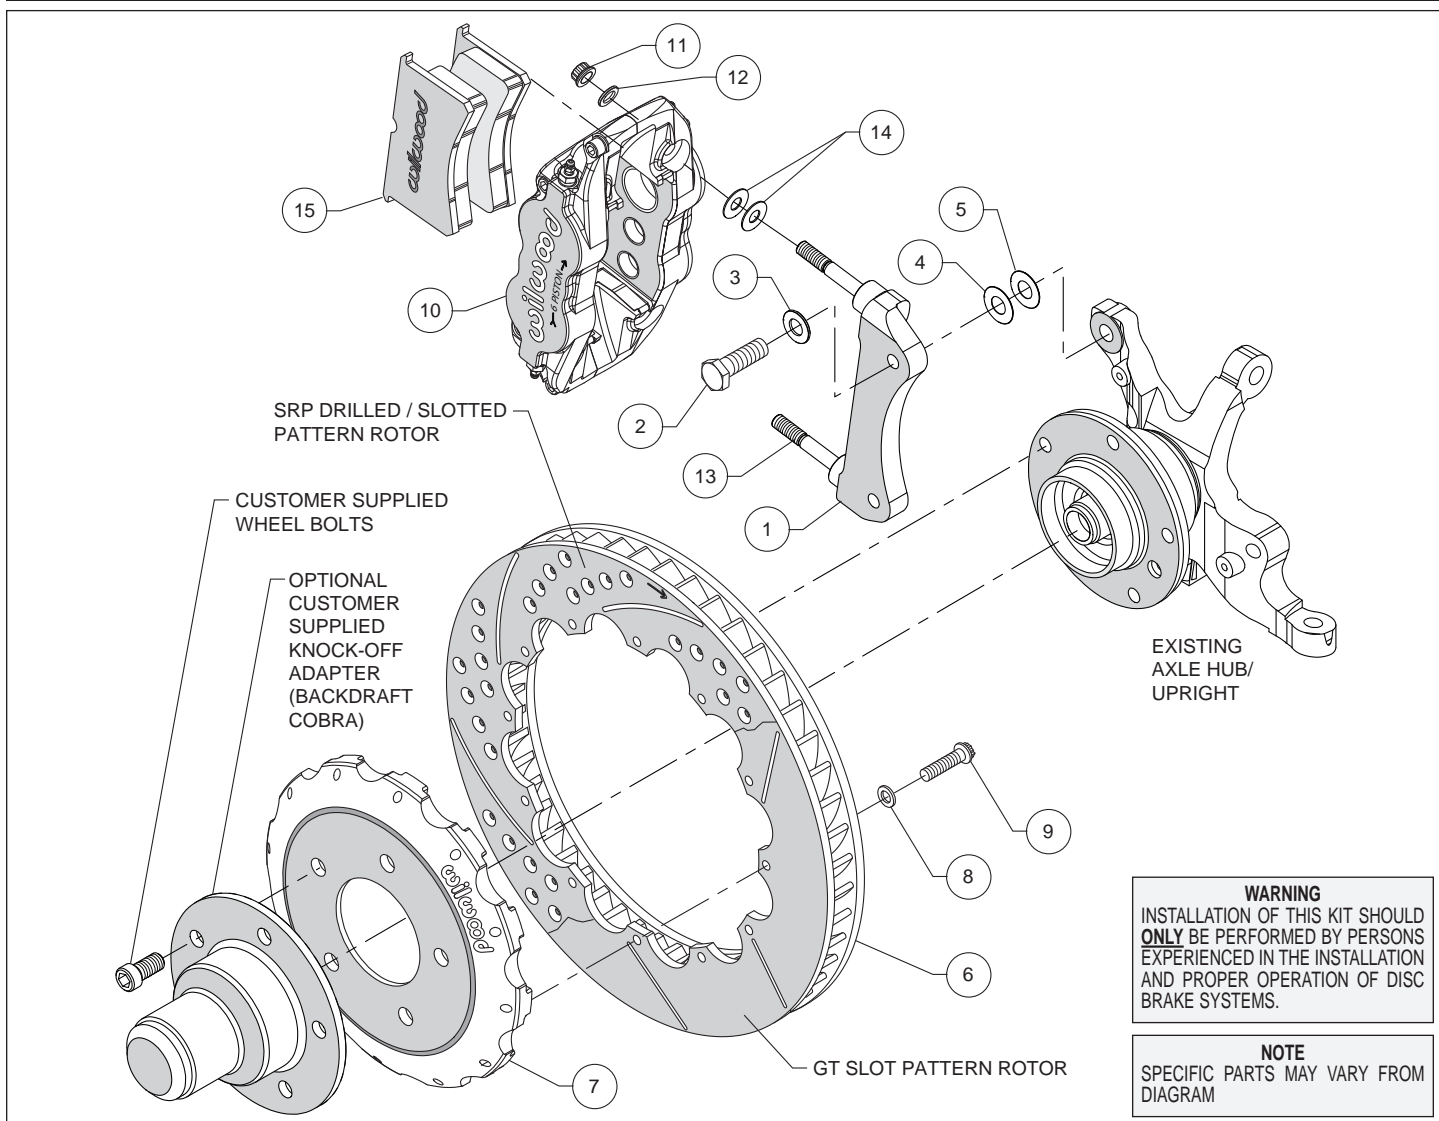

Figure 1. Typical Installation Configuration
Assembly Instructions (numbers in parenthesis refer to the parts list and Figure 1 on the preceding pages):
- The caliper mount bracket assembly (1) should initially be installed with clean, dry threads on the mounting bolts. Orient the bracket as shown in Figure 1 and install using mount bolts (2) and washers (3). Initially place one each .033" thick shim (4), and .015" thick shim (5) on each bolt between the bracket and upright, Figure 1. Temporarily tighten the mounting bolts. **NOTE: The bracket must fit squarely against the mount bosses on the backside of the upright.** Inspect for interference from casting irregularities, machining ridges, burrs, etc. Later, after the caliper alignment has been checked, the mount bolts will be secured using *Loctite*[®].
- Orient the rotor (6) and the hat (7) as shown in Figure 1. Attach rotor to hat using bolts (9) and washers (8). Using an alternating sequence, apply red *Loctite*[®] 271 to the threads and torque bolts to 155 **in-lb**. For an added measure of security, the bolts may be safety wired using standard 0.032 inch diameter stainless steel safety wire as shown in Figure 5. Please refer to Wilwood's data sheet DS-386 (available at www.wilwood.com/Pdf/DataSheets/ds386.pdf) for complete safety wire installation instructions.
- Slide the hat/rotor assembly (6/7) onto the axle hub. **NOTE: The hat must fit flush against the axle hub or excessive rotor run out may result.** Install the optional customer furnished knock-off over the hat/rotor assembly as shown in Figure 1. Install three customer supplied wheel bolts (finger tight) to keep the hat/rotor and knock-off assembly in place while continuing with the installation.
- **NOTE: This kit contains distinct right and left hand calipers that must be mounted in a specific direction, as described below.** Lubricate the caliper mounting studs (13) with lightweight oil. Initially place two .035" thick shims (14) on each stud between the caliper and the bracket, as shown in Figure 1. Mount the caliper (10) onto the bracket (1) using lock nuts (11) and washers (12), Figure 1. Temporarily tighten the lock nuts. Ensure that the caliper is mounted so the largest pistons are at the rotor exit end of the caliper, in relation to the direction of the rotor. View the rotor (6) through the top opening of the caliper. The rotor should be centered in the caliper. If not, adjust by adding or subtracting shims (4 and/or 5) between the bracket and the upright. Always use the same amount of shims on each of the two mounting bolts. Once the caliper alignment is correct, remove the bracket mounting bolts one at a time, apply red *Loctite*[®] 271 to the threads, and torque to 65 ft-lb.
- Remove the caliper center bridge pad retainer bolt, nut, and tube from the caliper. Insert the brake pads (15) into the caliper, with the friction material facing the rotor, Figure 1. Check that the top of the brake pad is flush with the outside diameter of the rotor. If not, adjust by adding or subtracting shims (14) between the caliper and the bracket. After the caliper pad height is set, torque the caliper lock nuts (11) to 30 ft-lb. Secure the brake pads in place with the center bridge pad retainer tube, bolt, and lock nut. The locknut should be snug without play in the bolt or tube. Be cautious not to over tighten.